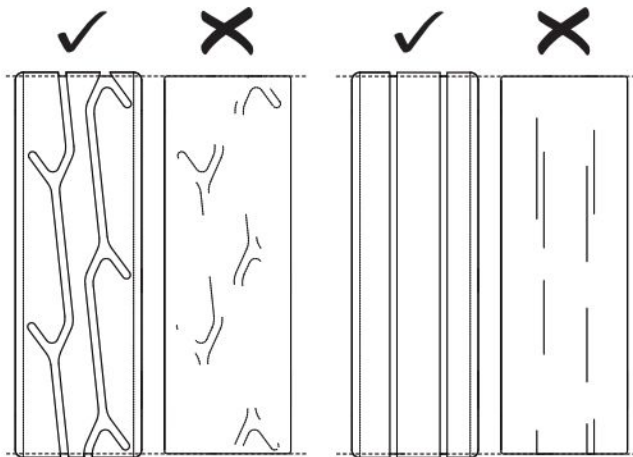

Figure 02
- The tire tread should be visible and not worn down completely. Refer to Figure 02.